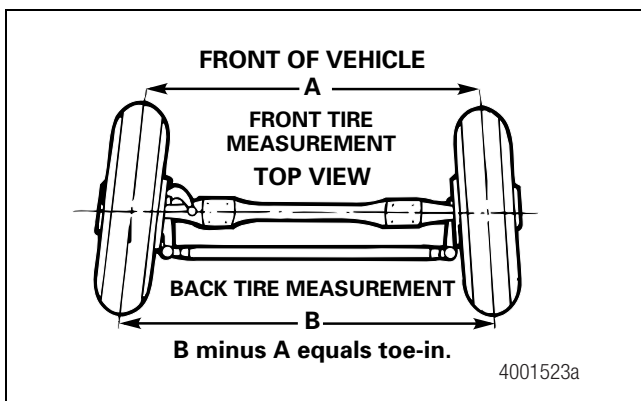

Figure 10.34
8. To obtain the toe measurement, subtract the distance between the front of the tires from the distance between the back of the tires. Figure 10.34.